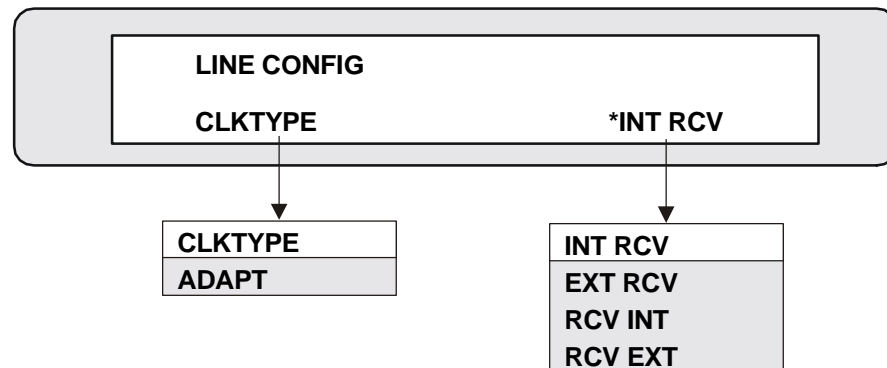

Figure 4-3. Selecting Clock Type
4. Press the SCROLL button until CLKTYPE is displayed (see Figure 4-3).